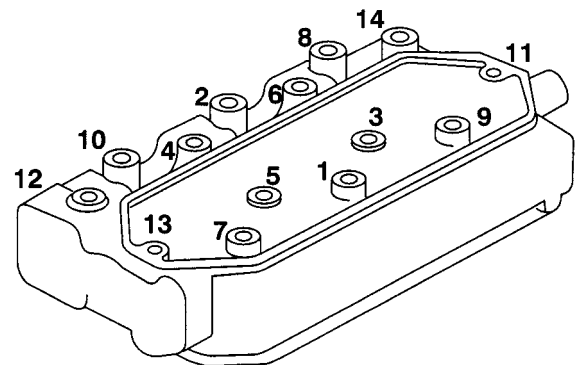

Bild 24
2. Using the sequence in Figure 24, torque the head bolts to 34 Nm.